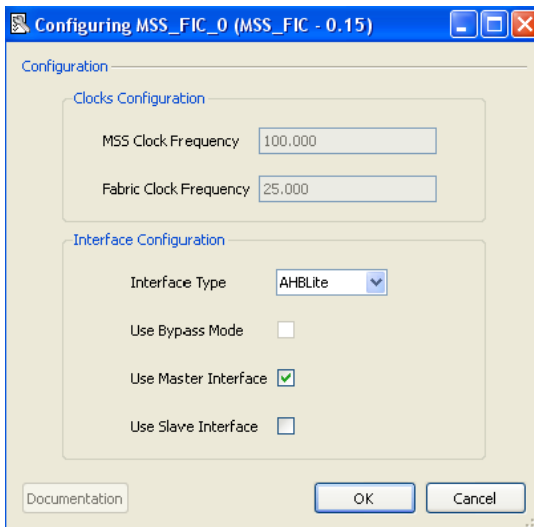

Figure 4 • Configuring the Fabric Interface Controller
3. Configure the FIC with an AHB-Lite interface (Figure 4), and check **Use Master Interface**.